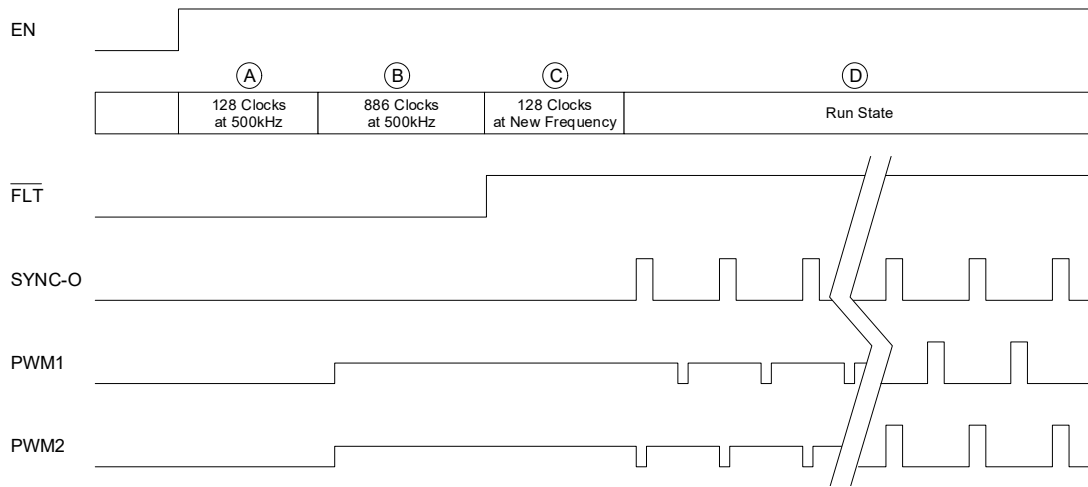
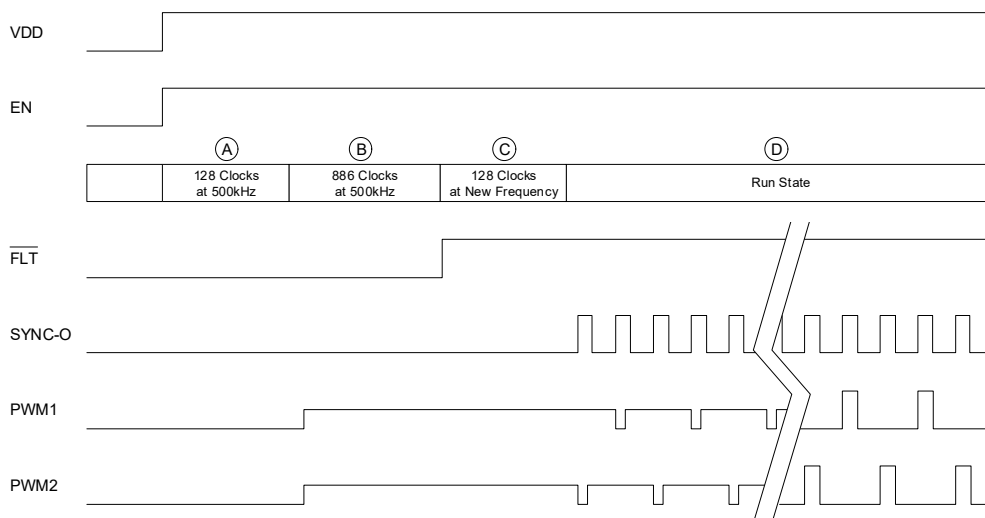

Figure 44. Start-Up Timing Diagram ($R_{\text{SYNC-O}} = \text{OPEN}$)
Figure 45. Start-Up Timing Diagram ($R_{\text{SYNC-O}} = 100\text{k}\Omega$)
SYNC-I. After an additional 128 clock cycles at the new frequency, boot refresh pulses commence followed by soft-start. Figure 44 and Figure 45 illustrate the start-up sequence.
During states A and C in Figure 44 and Figure 45, the oscillator blanks the clock signal to the digital core. This is done so that the oscillator has time to stabilize its frequency before entering the configuration state (B) or run state (D). **IMPORTANT:** During states A and C the digital core does not receive a clock; therefore, it is not able to detect a rising edge on EN. Rather the EN signal must persist long enough so that the digital core can read it during states B and D. The ISL73847SEH reacts to a falling edge on EN regardless of what state the controller is in.